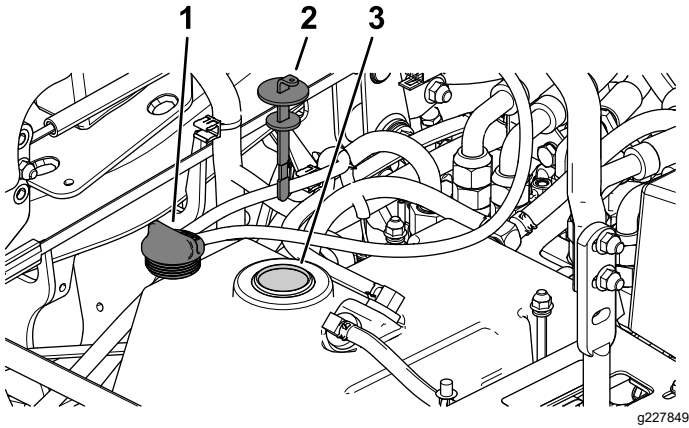

Figure 3
5. Remove the hydraulic-tank cap (Figure 3).
6. Remove the dipstick and wipe it with a clean rag (Figure 3).